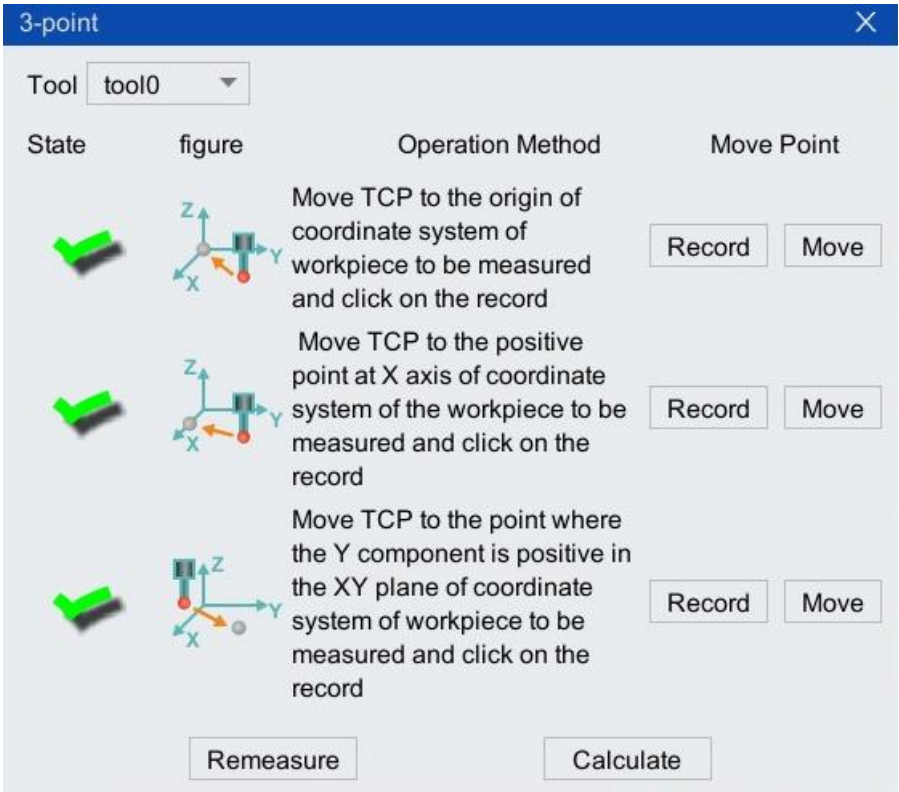

Figure 5-11 Interface status after all 3 points have been calibrated
Step13. Next, just follow the instructions in the picture for calibration. After each point is successfully calibrated, the ✗ in front will change to ✓. After all calibration is successful (such as shown in Figure 5-11), click <Calculate> button to calculate the error. If it exceeds the error range, it needs to be re-calibrated. If it is within the allowable error range, the calibration is completed.